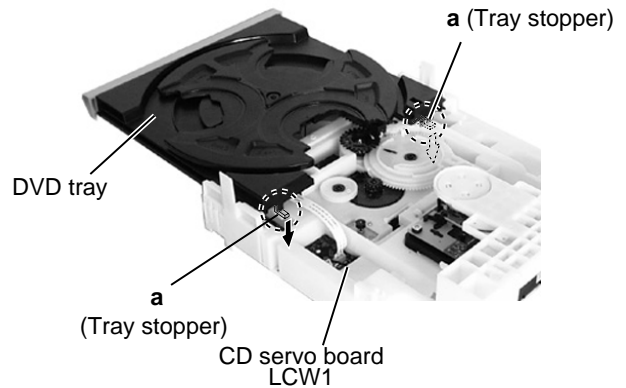

Fig.3
1. Align the gear-cam with the gear-tray as shown fig.3, then mount the DVD tray.